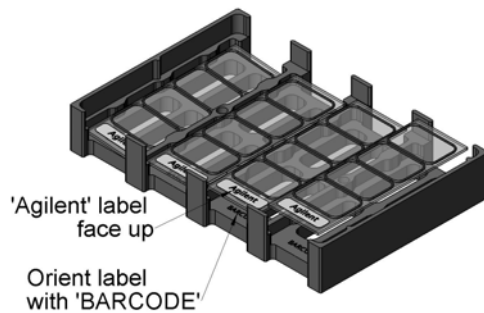

FIGURE 2
3. Place a gasket slide into each chamber in the cassette with the “Agilent” label facing up and aligned with the “barcode” side of the chamber, as shown in Figure 2.